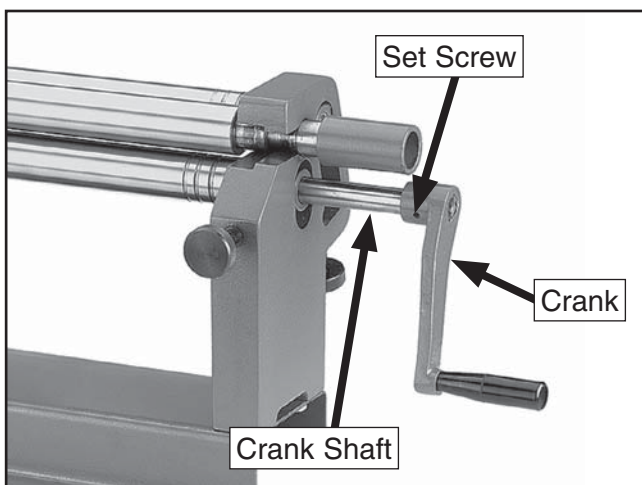

Figure 7. Crank mounting.
2. Slide the crank onto the crank shaft until the crank stops against the beveled shoulders of the shaft. Tighten the set screw to secure the crank in place (**Figure 7**).